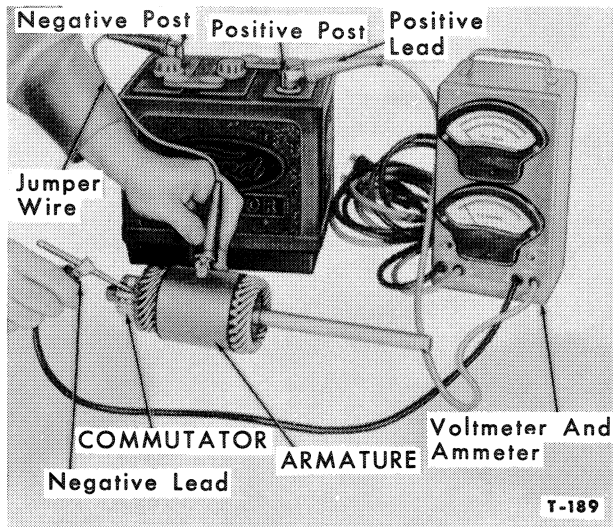

Figure 25—Checking Armature for Grounded Circuit
2. Connect a voltmeter and battery to the armature as shown in Figure 25. If a reading is obtained on the voltmeter, the armature windings are grounded and the armature must be replaced. A burned segment on the commutator indicates an open circuit making it necessary to replace the armature. Each segment of the commutator must be checked.